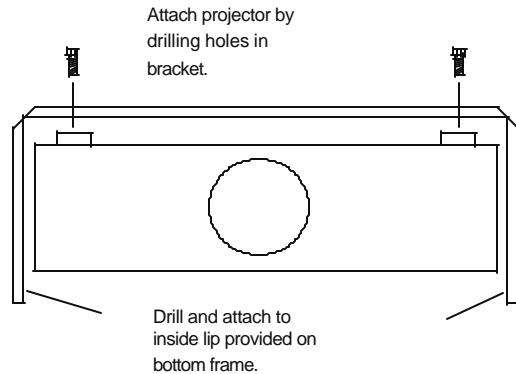

Figure 8.
- a. Inverted Mounting:** It can be accomplished by using the supplied channel brackets. These brackets are attached to the projector using feet mounting locations or other secure points commonly available depending on the projector model. Drilling of bracket is required -see figure 8, 9 and 10.